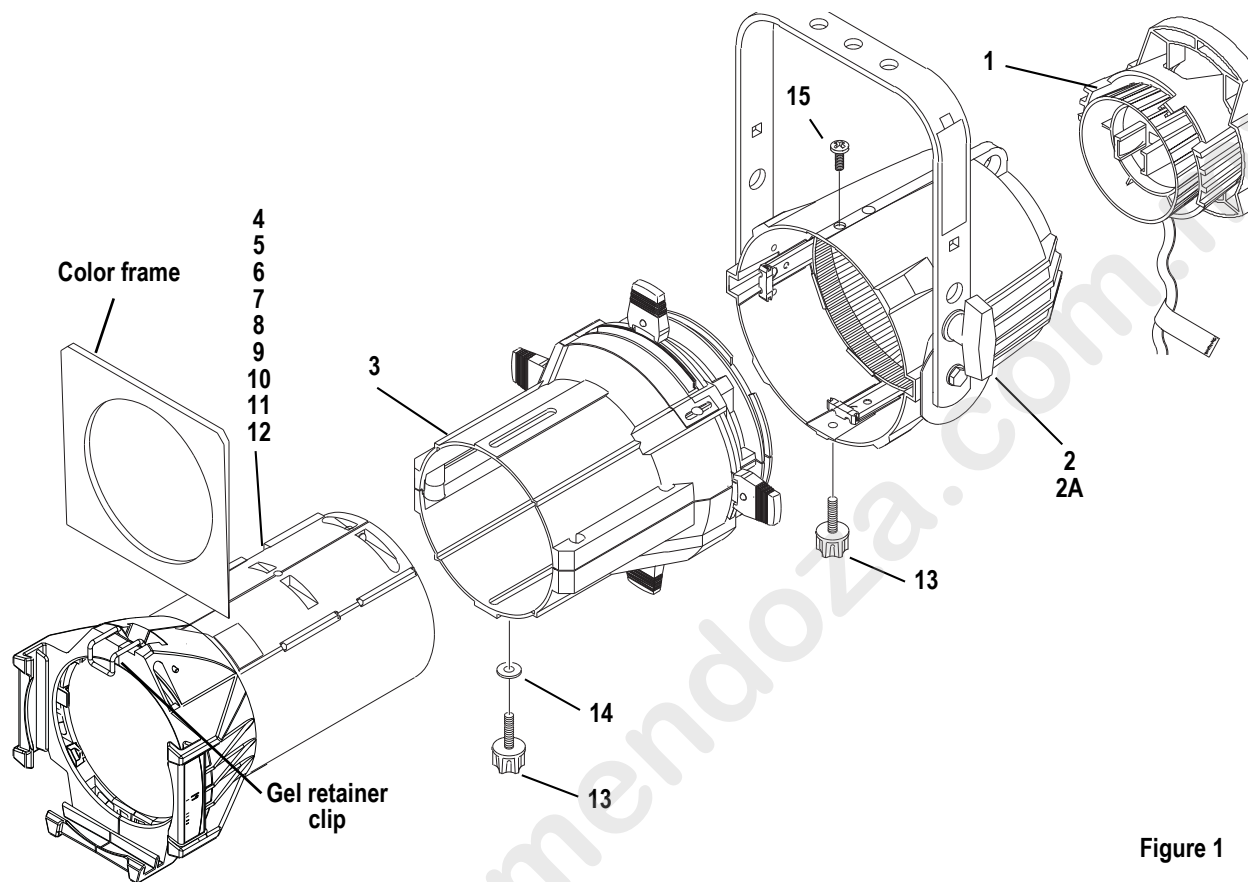

Figure 1
- Step 5: Insert lens tube assembly (4-12) fully into the front barrel assembly (3). Align the mounting hole with the slot and secure with knob (13). See Figure 1.
- Step 6: Install reflector housing (2) onto front barrel assembly (3) and align the two mounting holes. Secure with screw (15) on top, and knob (13) on bottom. Tighten both securely. See Figure 1.
- Step 7: Install the lamp socket assembly (1) to the reflector housing (2) and secure with brass knurled screw on rear of lamp socket assembly.